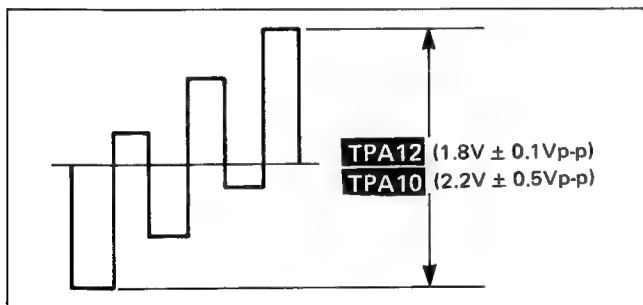

Fig. 30
- 3) Connect an oscilloscope between **TPA12** and chassis GND. When adjust Sub colour VR (R629) to achieve $1.8V \pm 0.1V_{p-p}$ on the oscilloscope as shown in Fig. 30
- 4) Connect an oscilloscope between **TPA10** and chassis GND. When confirm that the waveform level is $2.2V \pm 0.5V_{p-p}$ on the oscilloscope as shown in Fig. 30.